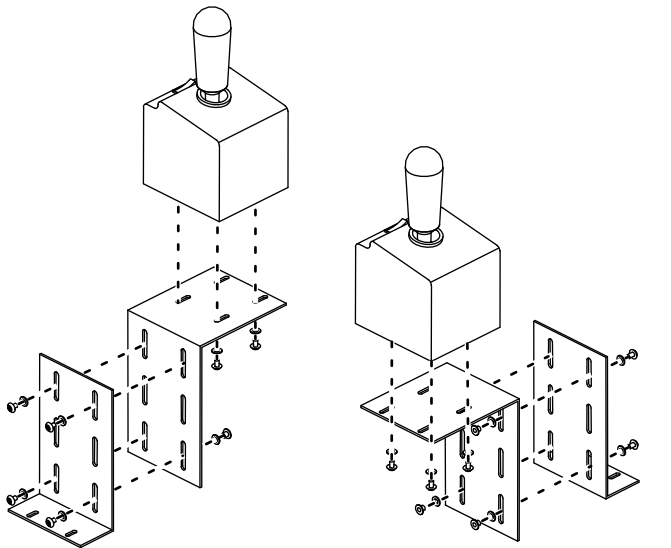

Figure 28
- Determine the best location and configuration for your controller mounting-bracket; refer to Figure 28 for possible configurations.
- Secure the mounting brackets to the vehicle and joystick controller using 8 to 10 bolts (#8), washers (#10), and nuts (#8) as shown in Figure 28.